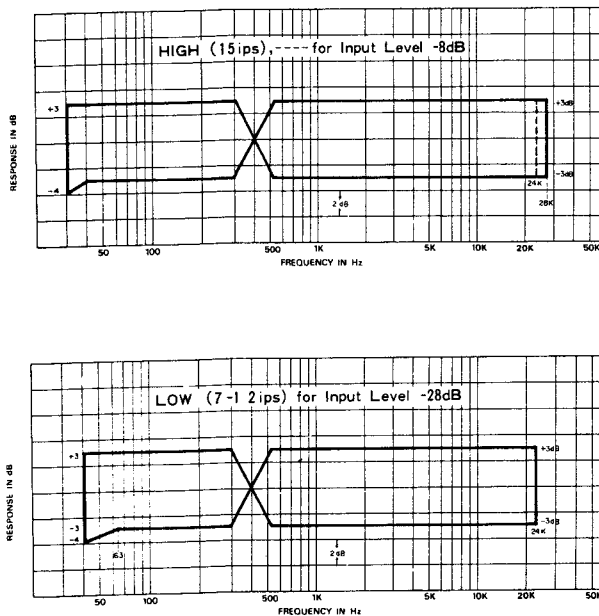

Fig. 10-14 Frequency Response –OVERALL– 2
25. During recording, monitor the Tape signal and adjust equalization VR-552 (on BIAS OSC UNIT) for both channels, and check for readings within the Response Limits chart. See Fig. 10-14.
26. Apply signal swept from 30 Hz to 28 kHz, -28 dB (30.8 mV) and while monitoring the off-the-Tape signal check for readings within the Response Limits chart. See Fig. 10-14.
27. Apply signal swept from 40 Hz to 24 kHz, -28 dB (30.8 mV) and while monitoring the off-the-Tape signal check for readings within the Response Limits chart. See Fig. 10-14.